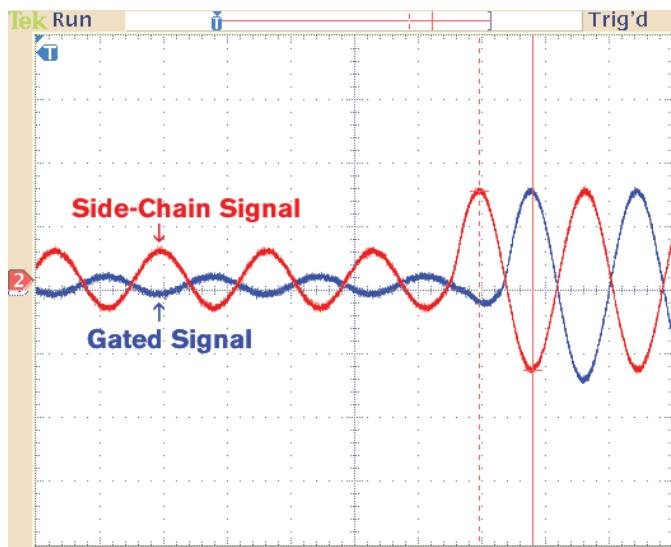

Figure 2: Look ahead pre-ramping (3 kHz signal)
The look ahead detector works as follows: the main signal is delayed, while the side-chain signal is not delayed. This delay is *extremely* short (a few millionths of a second) and can't be heard. The G4 examines the signal in advance and determine the appropriate response *before* an event (see Figures 2 and 3). This action allows the **Gate** and **Ducker** to turn on *before* a transient occurs. Pre-ramping the signal allows the main signal to be gated-on as the signal reaches the threshold.
- Leading edge wave shape is preserved above 1 kHz (see Figure 2).